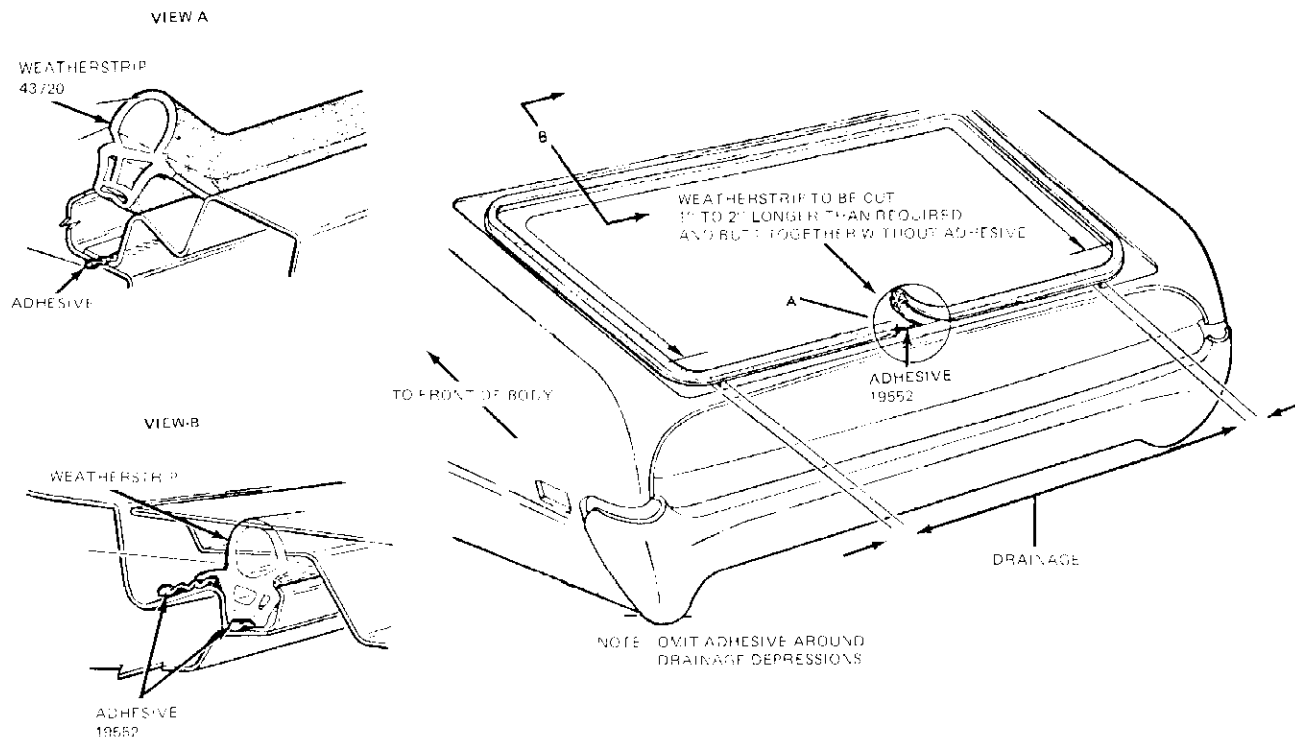

FIG. 14 Luggage Compartment Weatherstrip Installation-Typical All Models
2. Remove all old cement and rubber from the weatherstrip mounting surface (Fig. 14).
1. Apply a 1/4 inch bead of rubber cement 19552 (or equivalent) in the bottom of the weatherstrip trough except in the drainage depressions. (See Fig. 14 Note.)
2. Position the new weatherstrip in the trough as shown in Fig. 14. Cut the new weatherstrip approximately 1 to 2 inches longer than required and butt together without adhesive.
3. Apply a 3/32 inch bead of rubber cement 19552 or equivalent under the outboard lip of the weatherstrip between points shown in Fig. 14.